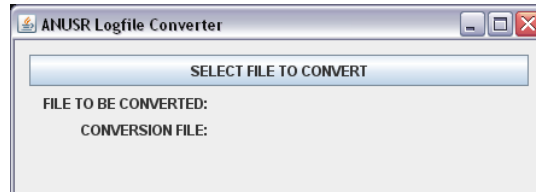

Figure 7.13 - LPR-200 Logfile Converter Software
- Open LPR-200 Logfile Converter.jar. (See Figure 7.13 - LPR-200 Logfile Converter Software)